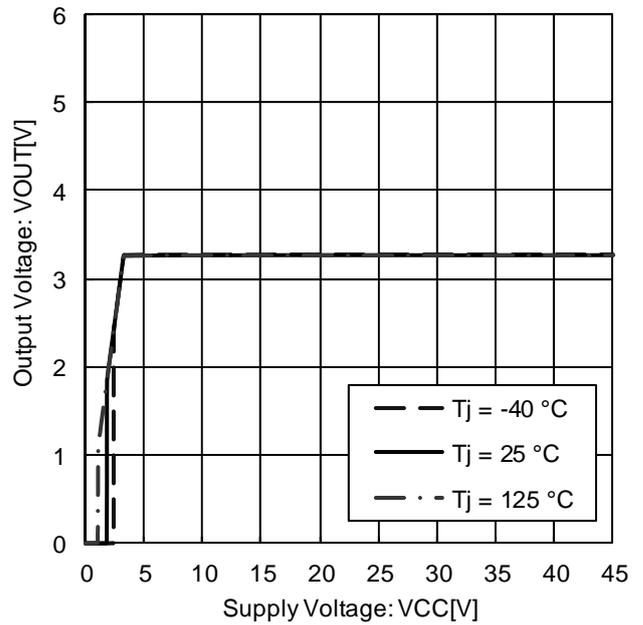

Figure 6. Output Voltage vs. Power Supply Voltage ($I_{OUT} = 0\text{ mA}$)
*magnified Figure 6. at low supply voltage